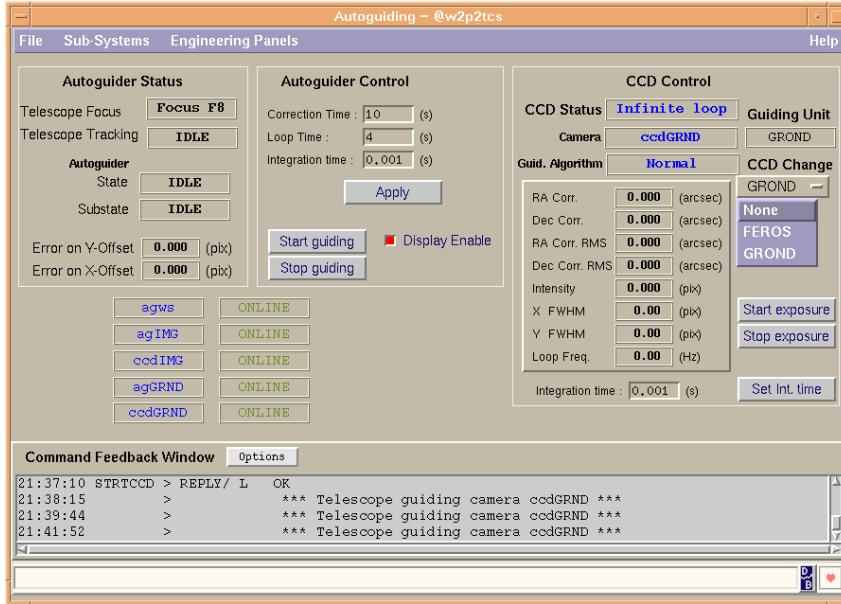

Figure 2.5: Switching between **GROND** and **FEROS** guide camera.
- b. Select GROND below CCD change (see Fig. 2.5, p. 32)
- b. Select FEROS below CCD change (see Fig. 2.5, p. 32)
Check that the **GROND** and **FEROS** guide cameras work by switching between them on the **AG** window (see Fig. 2.5, p. 32). The switching should set the camera in CCD status Infinite loop. It may be necessary to click on Start exposure after switching to obtain this status. If status is Fail, the camera must be restarted (see Sect. 10.2, p. 77).